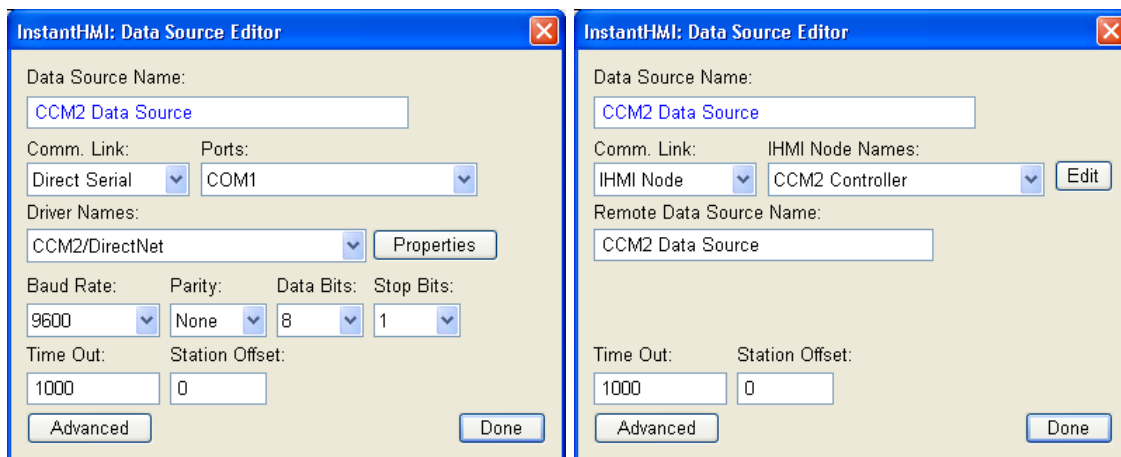

Figure 11.11: Data Source for Server (Node 1) and Client (Node 2)
- Assume Node 1 Data Source 'CCM2 Data Source' defines the serial link parameters to access and control the DL205 PLC serially (Figure 11.11). Since all screen objects refer to the 'CCM2 Data Source', edit this Data Source for Node 2 making Comm Link = IHM Node, and Remote Data Source = 'CCM2 Data Source'. It is convenient to use the same name 'CCM2 Data Source' for the client (local) Data Source Name as well. This will allow you to use (without any change) all screen objects and screens copied from Node 1 and deployed on Node 2.